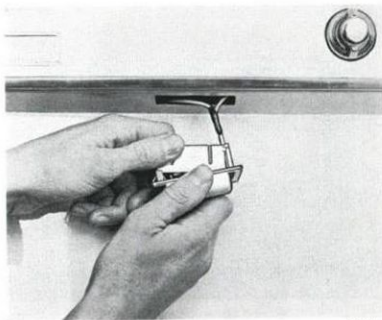

Fig. 3-119. Disassembling license plate light
3. Disassemble the plate according to Fig. 3-119.